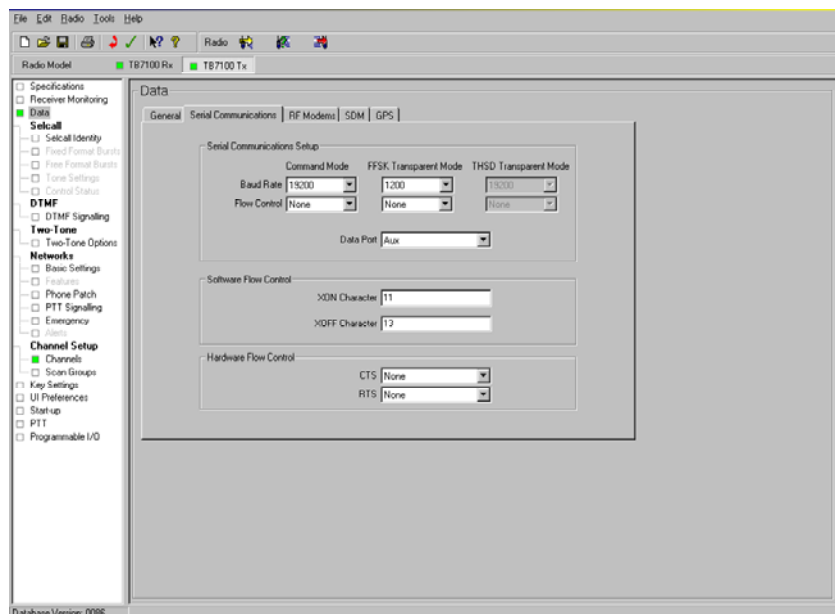

Figure 10
- Under Data> RF Modems set the following parameters as in **figure 10**